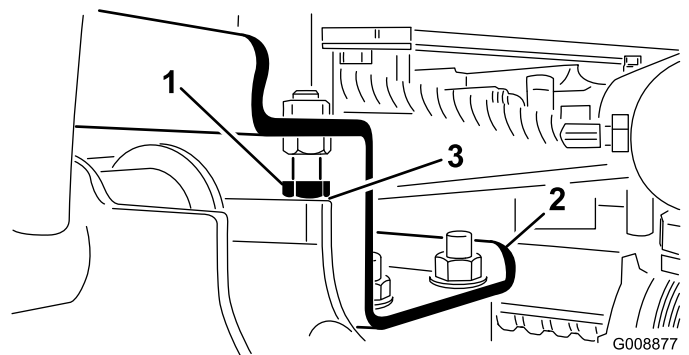

Figure 12
- A. Back off the stop bolts (Figure 12).
2. Check to make sure that the clearance between each lift arm and stop bolt is 0.005 to 0.040 inches (0.13 to 1.02 mm) (Figure 12). If the clearance is not in this range, adjust the stop bolts to attain clearance.